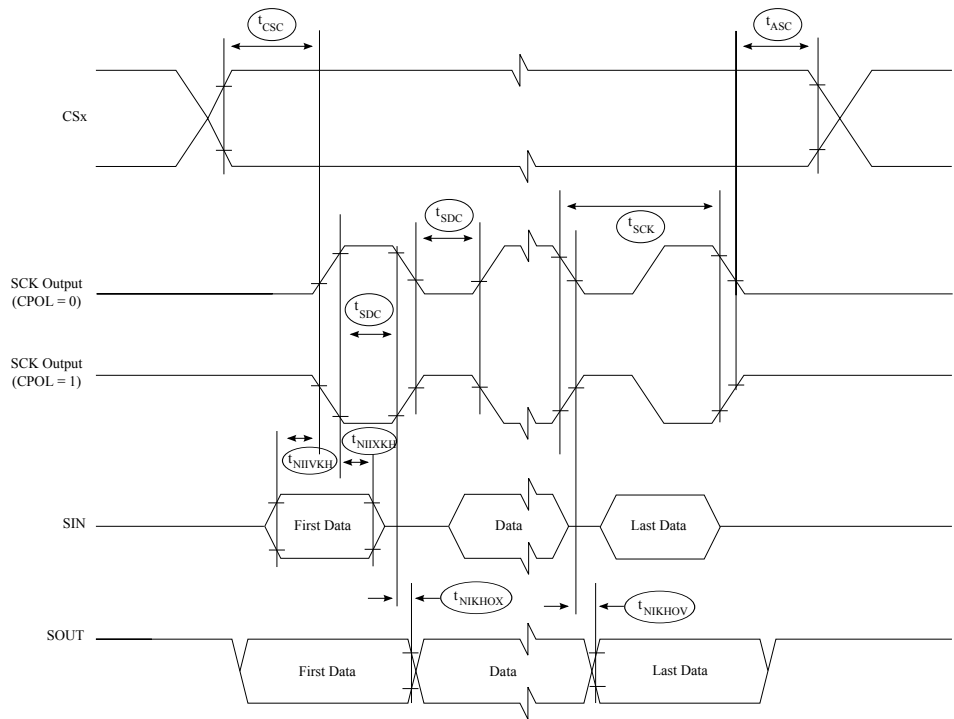
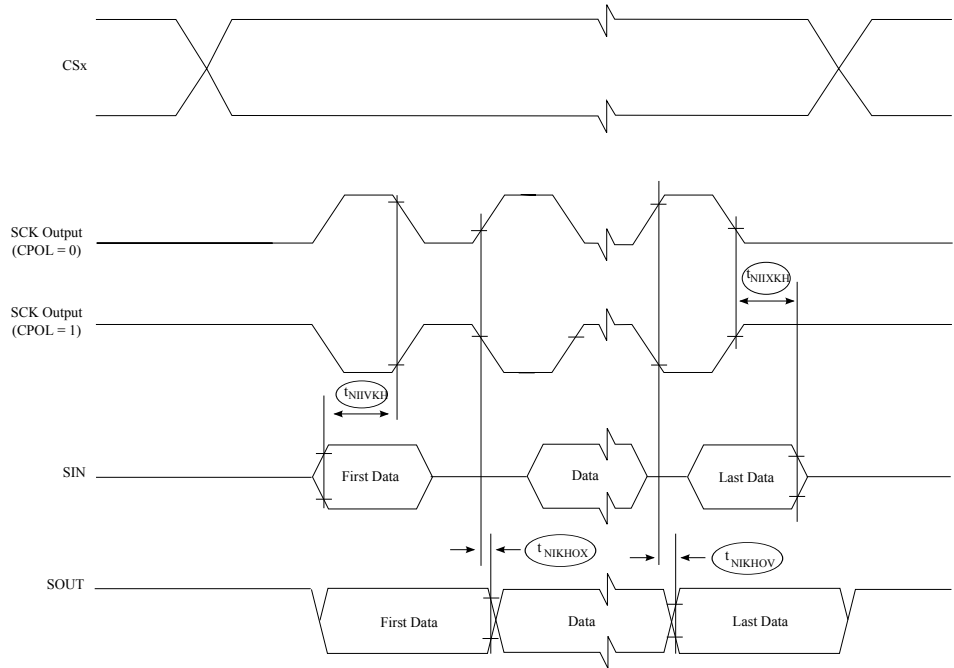

Figure 41. SPI timing master, CPHA = 0
Figure 42. SPI timing master, CPHA = 1
1. t_{SYS} = 10 ns 2. Master mode 3. Refer the CTARx register in QorIQ LX2160ARM for more details. The tCSC = tp * (Delay Scaler Value) * CTARx[PCSSCK] - 1.85, where the Delay Scaler Value comes from Table Delay Scaler Encoding. For example, the tCSC = tp * 4 * 3 - 1.85 when CTARx[PCSSCK] = 0b01, CTARx[CSSCK]=0b0001 4. tp is the input clock period for the SPI controller. 5. Refer the CTARx register in QorIQ LX2160ARM for more details. The tASC = tp * (Delay Scaler Value) * CTARx[PASC] + 0.06, where the Delay Scaler Value comes from Table Delay Scaler Encoding. For example, the tASC = tp * 8 * 3 + 0.06 when CTARx[PASC] = 0b01, CTARx[ASC]=0b0010 6. See Figure 41. 7. See Figure 42.